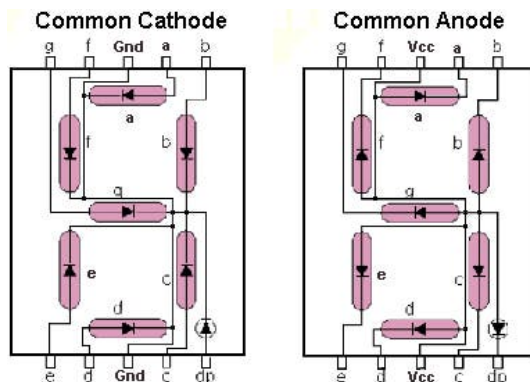

Fig 5: Common Cathode and Common Anode 7-segment LED
IT is known that 7-segment LEDs are either Common Anode (CA) or Common Cathode (CC). Fig 5 shows their difference. In CA we need to source current to the common anodes of the 8 internal LEDs (including decimal point) and sink current from their individual cathodes whereas in CC we need to source current to the individual anodes of the 8 internal LEDs and sink current from their common cathodes. In any case, we put in series with every LED a limiting resistor of 330 or 470  $\Omega$  in order to have a satisfactory intensity and protect the Raspberry pi pin's current capability. Note that using a single resistor in common anode or in common cathode is not correct since the intensity of the digits will vary depending on the number of segments that are ON each time (voltage drop across it will be varying).